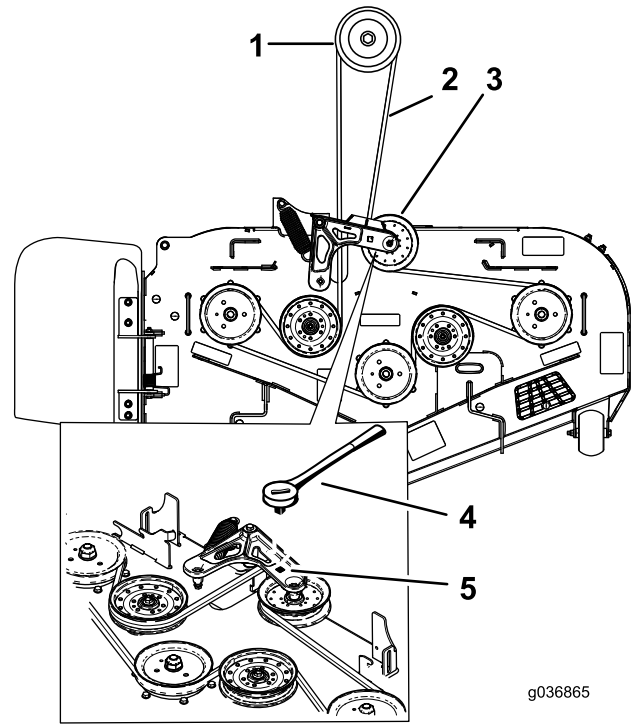
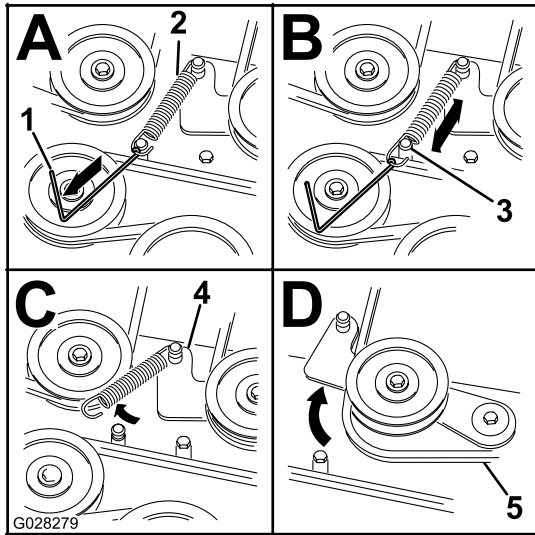

**Figure 26**
**Figure 28**
- On the mower, remove the spring tension from the spring-loaded idler pulley; refer to Figure 26 or Figure 28.
**Note:** For blower models 78486, 78487, 78488, 78404, 78405, and 78406, use a ratchet in the square hole in the idler arm to remove tension on the idler spring (Figure 28).